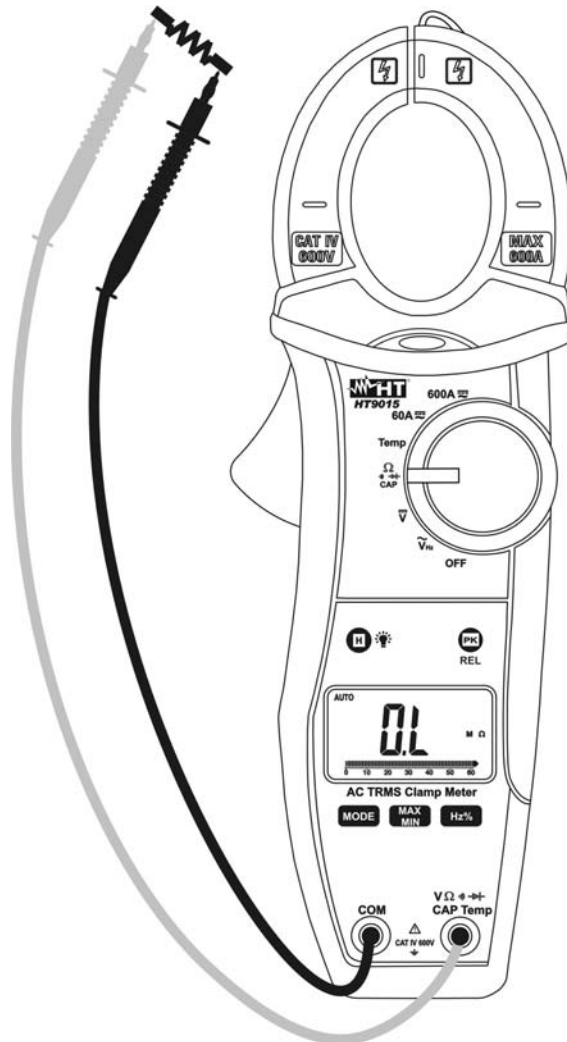

Fig. 5: Taking Resistance measurement
2. Insert the red test lead plug into  $V\Omega \cdot \text{CAP Hz\%Temp}$  jack and the black test lead plug into **COM** jack (Fig. 5)